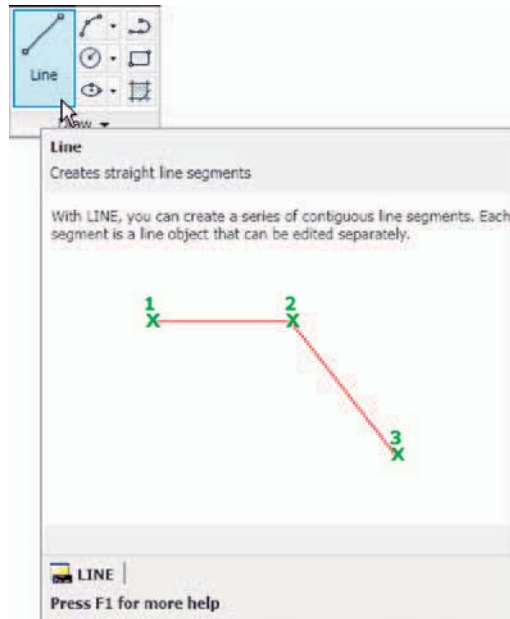
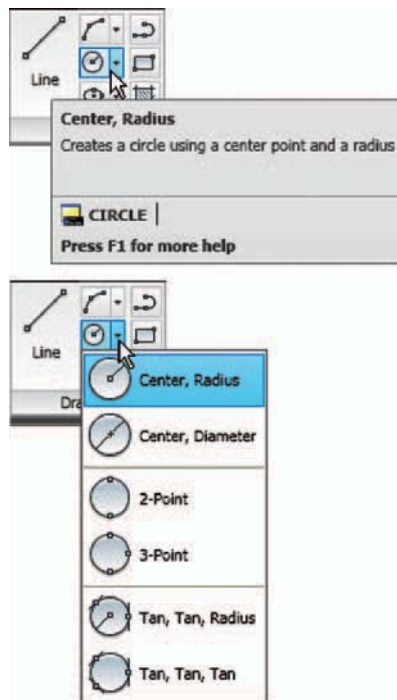

Fig. 1.7 The descriptive tooltip appearing with a *click* on the **Line** tool icon
Fig. 1.8 The tooltip for the **Circle** tool and its pop-up menu
- **Tool panels**: each shows tools appropriate to the panel. Taking the **Home/Draw** panel as an example, Fig. 1.7 shows that placing the mouse cursor on one of the tool icons in a panel brings a tooltip on screen showing details of how the tool can be used. Two types of tooltip will be seen. In the majority of future illustrations of tooltips, the smaller version will be shown. Other tools have pop-up menus appearing with a *click*. In the example given in Fig. 1.8, a *click* on the **Circle** tool icon will show a tooltip. A *click* on the arrow to the right of the tool icon brings a pop-up menu showing the construction method options available for the tool.